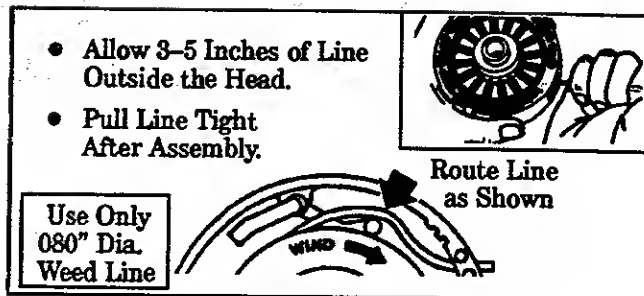

Figure 23
- e. Insert about 6 inches of Line from the inside of the Huh through the Line Exit Hole to the outside to keep the Line from backing into the Head. Figure 23 .
- f. Route the Line behind the Balancing Pin (Figure 23) while carefully placing the Spool in the Huh.
Pin and will feed continuously when the Trimmer Head turns. Remove Cover and re-route Line as shown in Figure 23.
i. Check to make sure all four Catches and the Lock Tab are properly fastened as shown in Figures 23 & 25, then test the Cover by trying to turn it counterclockwise.